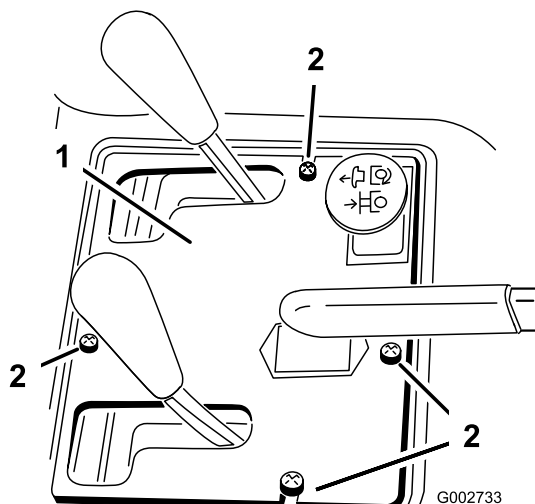

Figure 39
2. Remove the 4 screws securing the control panel to the frame (Figure 39).